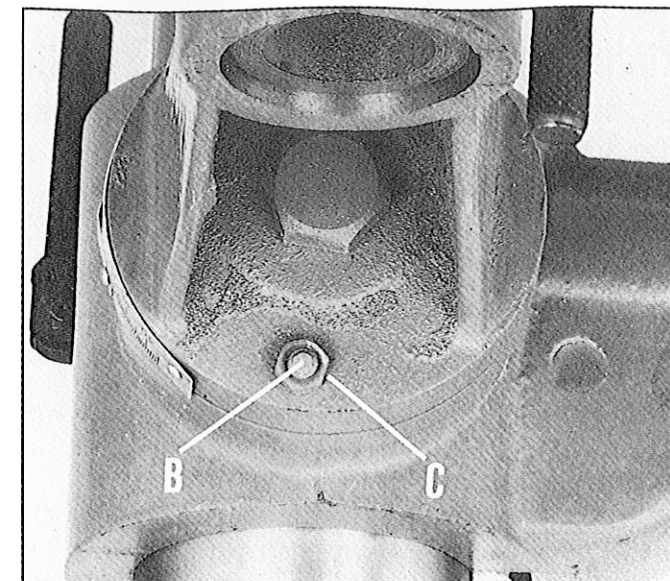

Fig 29
3. The table can be tilted right or left by pulling out and removing table alignment pin (B) Fig. 29. Note: If pin (B) is difficult to remove turn nut (C) clockwise to pull pin out of casting.